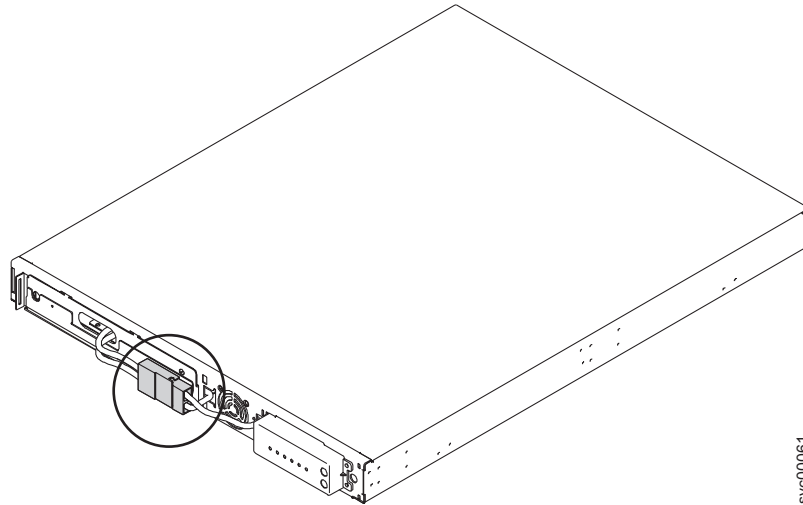

Figure 25. The 2145 UPS-1U internal-battery connector
5. Connect the internal battery connector (shown in Figure 25 on page 37). Each end of the keyed connector has two wires: one red (+) and one black (-). Align the connector so that the two red wires are joined together and the two black wires are joined together.